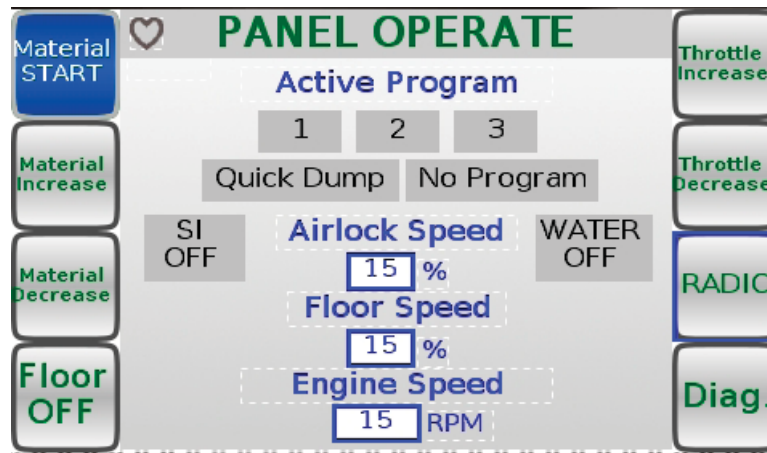

Figure 9
While in the PANEL OPERATE menu screen (see Figure 9), the operator can set the Airlock Speed, Floor Speed, and Engine Speed. The Floor, Material, Water (Dust Control), Quick Dump, and Seed Injection (SI) can all be turned either ON or OFF in this menu. The operator also has the ability to choose a preset program in the PANEL OPERATE menu screen.